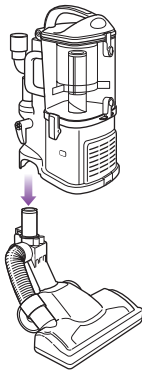

Fig. 7
- 2 Align the tube of the floor nozzle with the tube on the detachable canister and lower until you hear the two pieces click into place. **(Fig. 7)**
- 1 Separate the detachable canister from the floor nozzle. (See page 8, Fig. 7.)